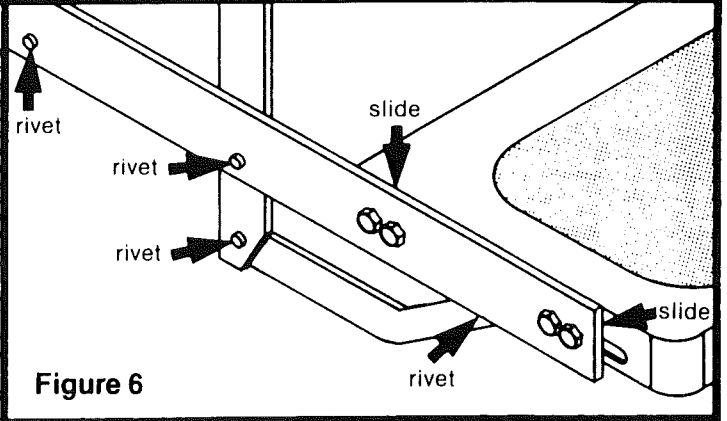

Figure 6
4. TO CHECK THE DOOR SWITCH: Connect the voltmeter between the RED wire from the vehicle half of the four way plug and the BROWN wire in the same plug (See Figure 6). The reading should be about 12 volts DC when the door is open and zero when the door is closed. If the reading is zero with the door open, check the ground connection from the door switch. This connection should be clean and tight. See Step #8 of the HOOKUP PROCEDURE. An improper ground can cause intermittent or erratic operation of the step. If the step will not retract after being extended or extends with the door closed, the BROWN wire to the door switch may be touching a grounded surface inside the wall behind the door